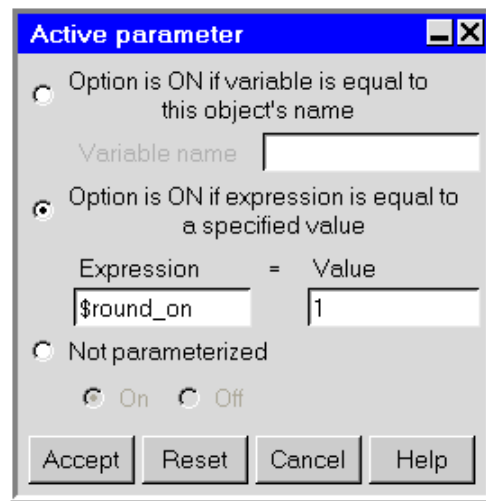

Figure 24.3.2: The Active parameter Panel for the Round Ceiling Diffuser
- (a) Set the parameter values for the round ceiling diffuser to 0 (not active) and 1 (active). Open the **Active parameter** panel for the `diffuser.1`, and select **Option is ON if expression is equal to a specified value**. In the **Expression** entry box enter `$round_on`, and in the **Value** entry box enter 1, as shown in Figure 24.3.2. Airpak will ask you to provide an initial value for the variable in the **Param value** panel. Enter 1 and click **Done**. To set another value of the parameter to 0, for which the diffuser assembly will not be **Active**, you will use **Parameters and optimization** panel (see Section 24.5).